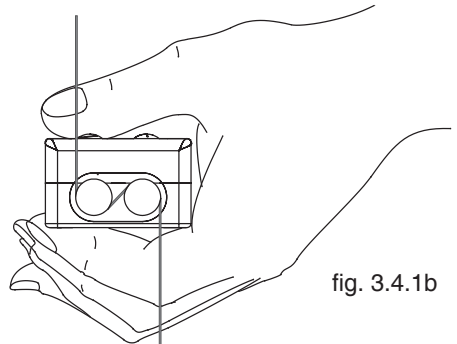

fig. 3.4.1b
- Rotate the tension meter by approx. 180 degrees (fig. 3.4.1b).